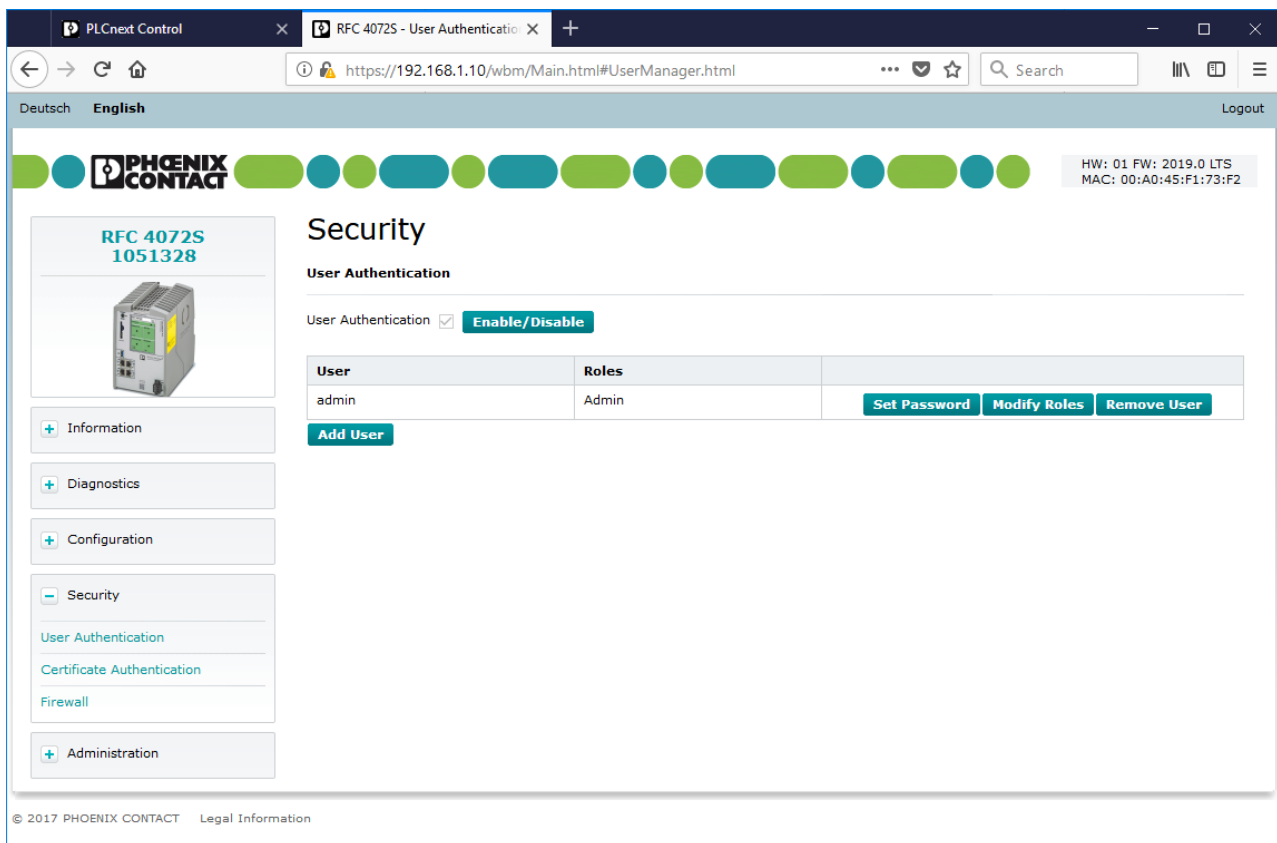

Figure 9-10 WBM: “User Authentication” page
- Click on the “Modify Roles” button in the row of the desired user on the “User Authentication” page (see Figure 9-10 on page 220).